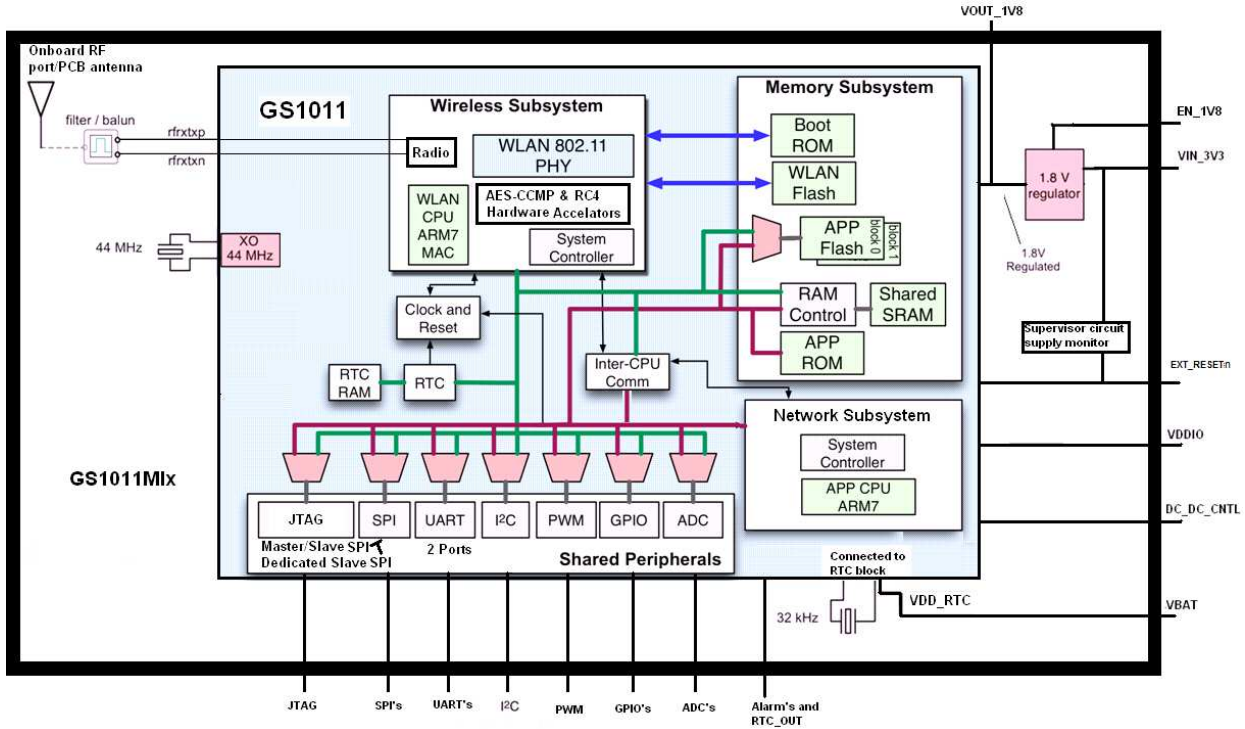

Figure 2-1: GS1011M1x Block Diagram
- The low power module option has a capability of +9dBm output power at the antenna (see Figure 2-1).